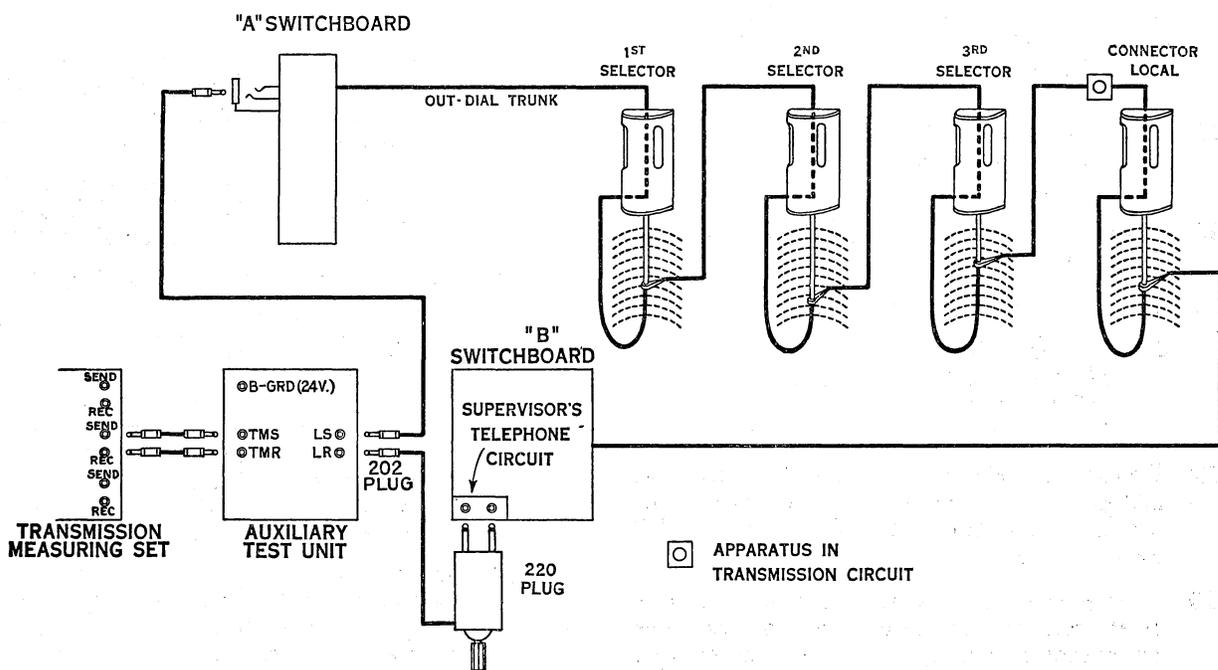

Figure 1
- 2.06 Figure 1 shows schematically the connections for the test.